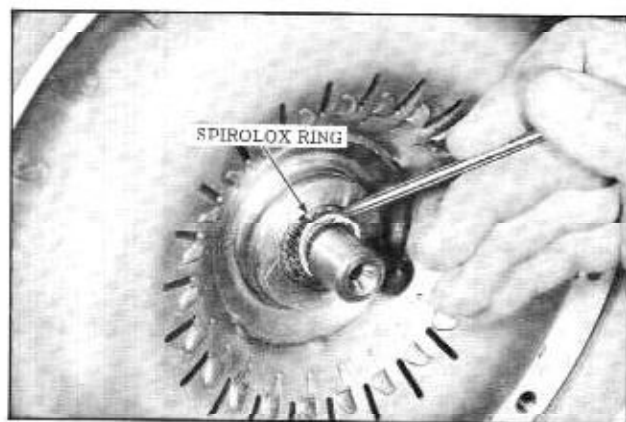

Figure 3-41 Removing Spirolox Ring
7. From the front of the transmission remove the driven torus member to main shaft Spirolox ring, with a small pointed tool. (Fig. 3-41)